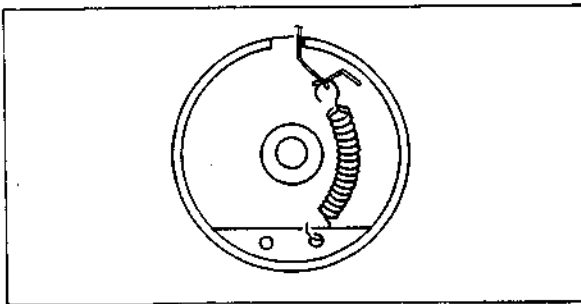

Fig. 2-7. Coil spring installation
- Hook the spring to one hole of the drive drum as shown in Fig. 2-7.